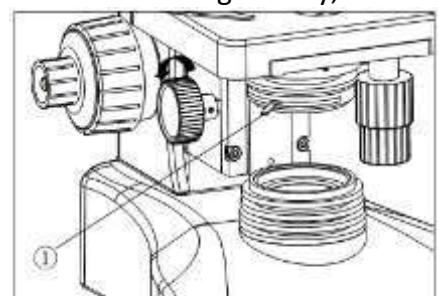

Fig.20
3.3.5 Aperture Iris Diaphragm Adjustment (Fig.20,21)